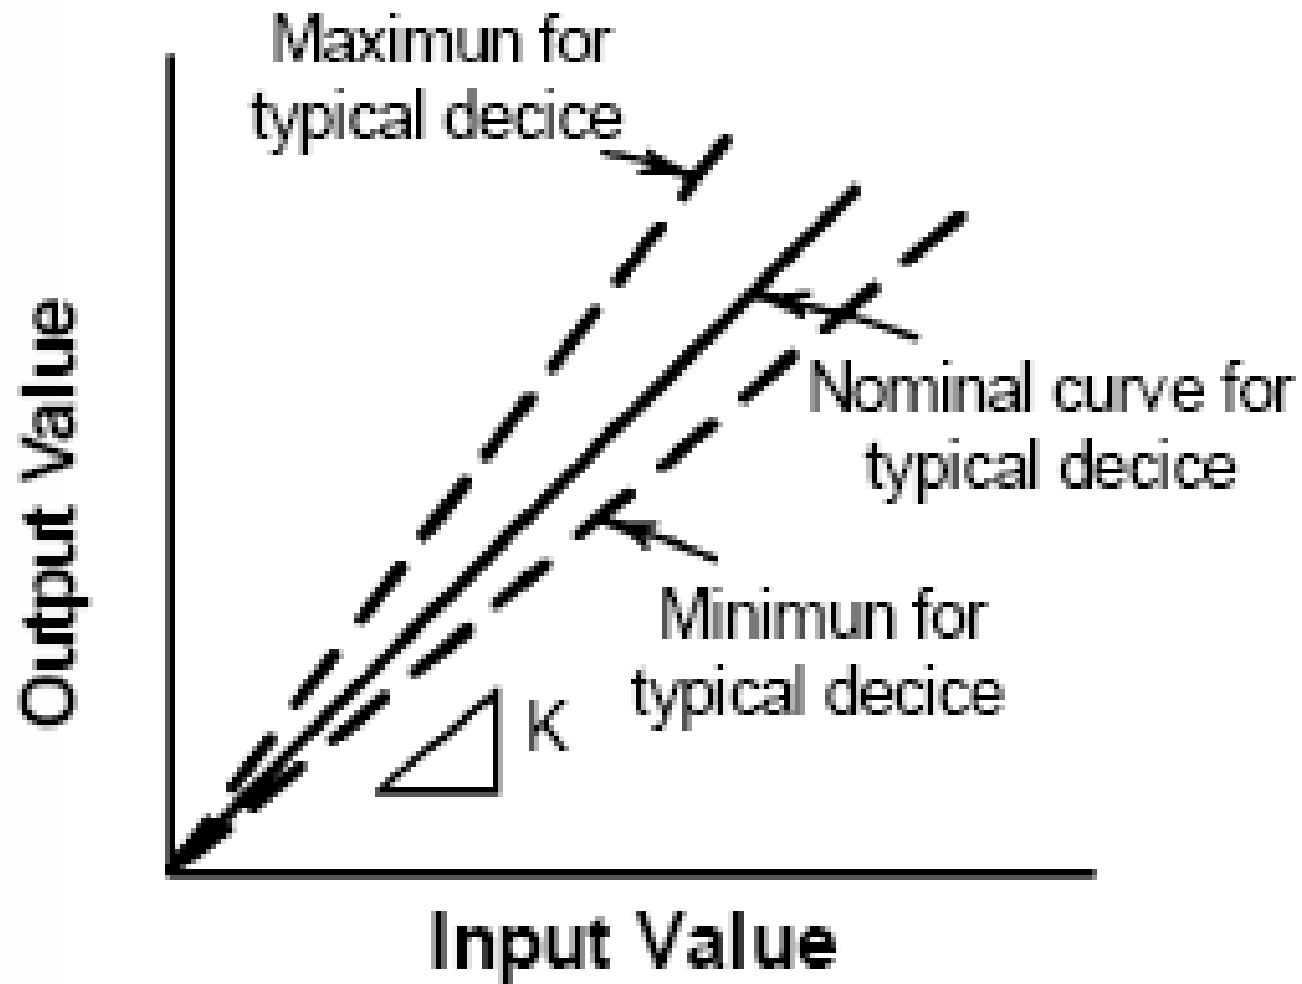

Figure 2.4
- # As shown in Figure 2.4, if we fix the zero intercept at zero (a zero output from the system for zero input), then the scatter in the data leads to precision error in estimating the slope of the calibration curve.